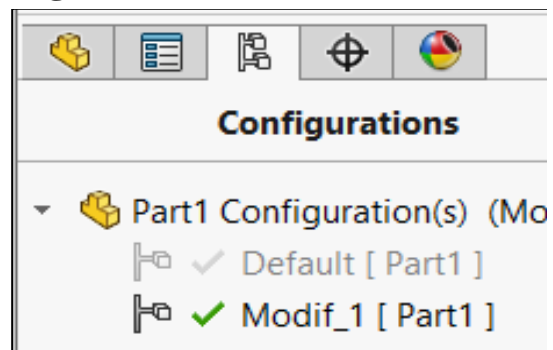

Figure 11 – Activating the configuration
1. In order to activate the necessary configuration, double-click on its name or right-click on the name of the configuration and select the *Show command* in the context menu *Configuration* (Fig. 11).